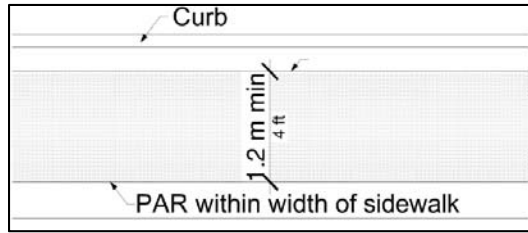

Figure 18 - Accessible Route Continuous Width
- Continuous widths are 4.0 ft. minimum, exclusive of the curb (see **Figure 18**)